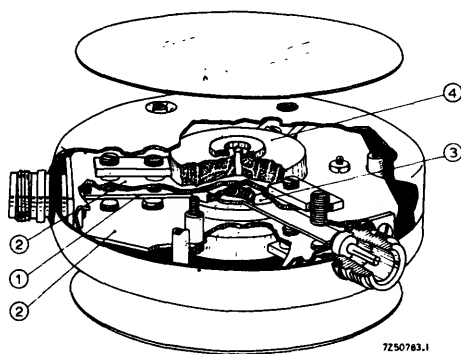

Fig. 9 Construction of a junction type coaxial circulator.
A coaxial circulator of the junction type is shown in Fig. 9. Three copper strips (1) intersect at 120° in the centre of the circulator. The strips are mounted between two earth plates (2) to form a matched high-frequency conductor. Two ferrite discs (3) and magnets (4) are mounted in the exact centre of the circulator.